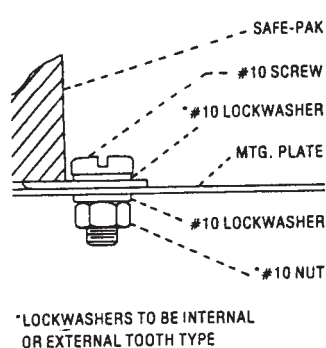

FIG. 5. Unit mounting detail.
- D. The SAFE-PAK mounting bracket must be grounded to ensure intrinsic safety. Resistance between bracket and ground chassis should be below one ohm. See Figs. 5 and 6 for recommended selection of grounding hardware, and refer to Article 250 of the National Electrical Code for methods and practice.